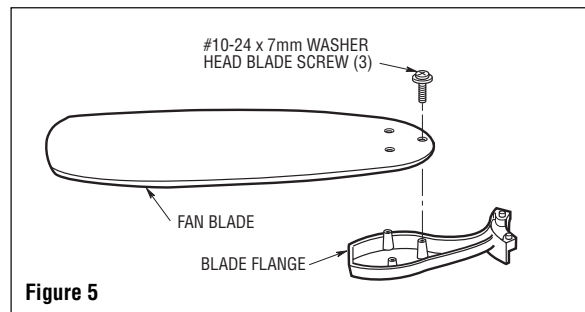

Figure 5
8. Mount blade flanges to fan blades using three #10-24 x 7mm washer head blade screws (Figure 5).